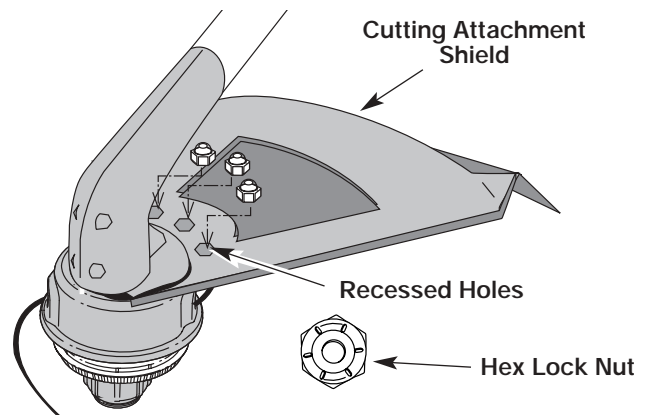

Fig. 4
2. Place a hex lock nut into one of the three recessed holes on the top of the cutting attachment shield (Fig 4).